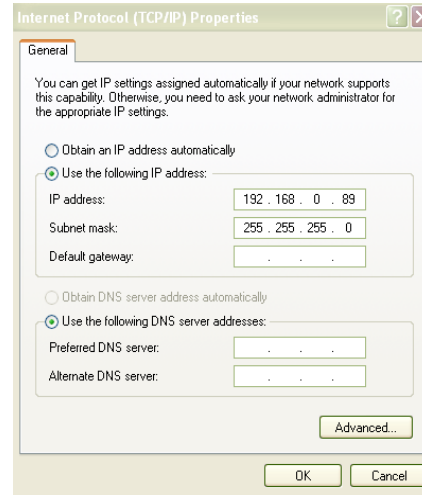

Figure 4.1
- 7.) Select **Use the following IP address** and enter in an IP address 192.168.0.51 (figure 4.1) for the DWL-2100AP or 169.254.2.101 for the CC501.